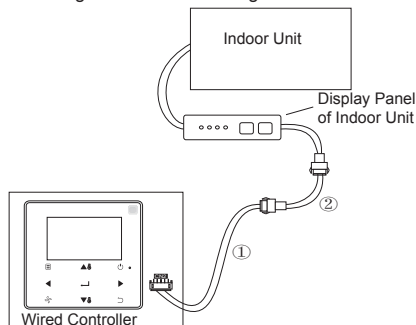

Fig.12
2-5-6 For the non 2nd generation DC IDU, the wired controller needs to be interconnected to the 5-core terminal on the IDU display panel through the CN2 port. See Fig. 12. The following standard connection line sets ① and ② as configured for the following wired controller accessories.